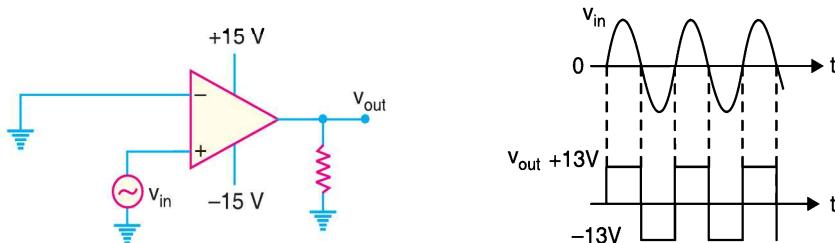

Fig. 25.95
2. As a zero-crossing detector. When one input of a comparator is connected to ground, it is known as zero-crossing detector because the output changes when the input crosses 0 V. The zero-crossing circuit is shown in Fig. 25.95. The input and output waveforms are also shown. When the input signal is positive-going, the output is driven to positive maximum value (i.e. $+V_{sat} = +13$ V). When the input crosses the zero axis and begins to go negative, the output is driven to negative maximum value (i.e. $-V_{sat} = -13$ V).